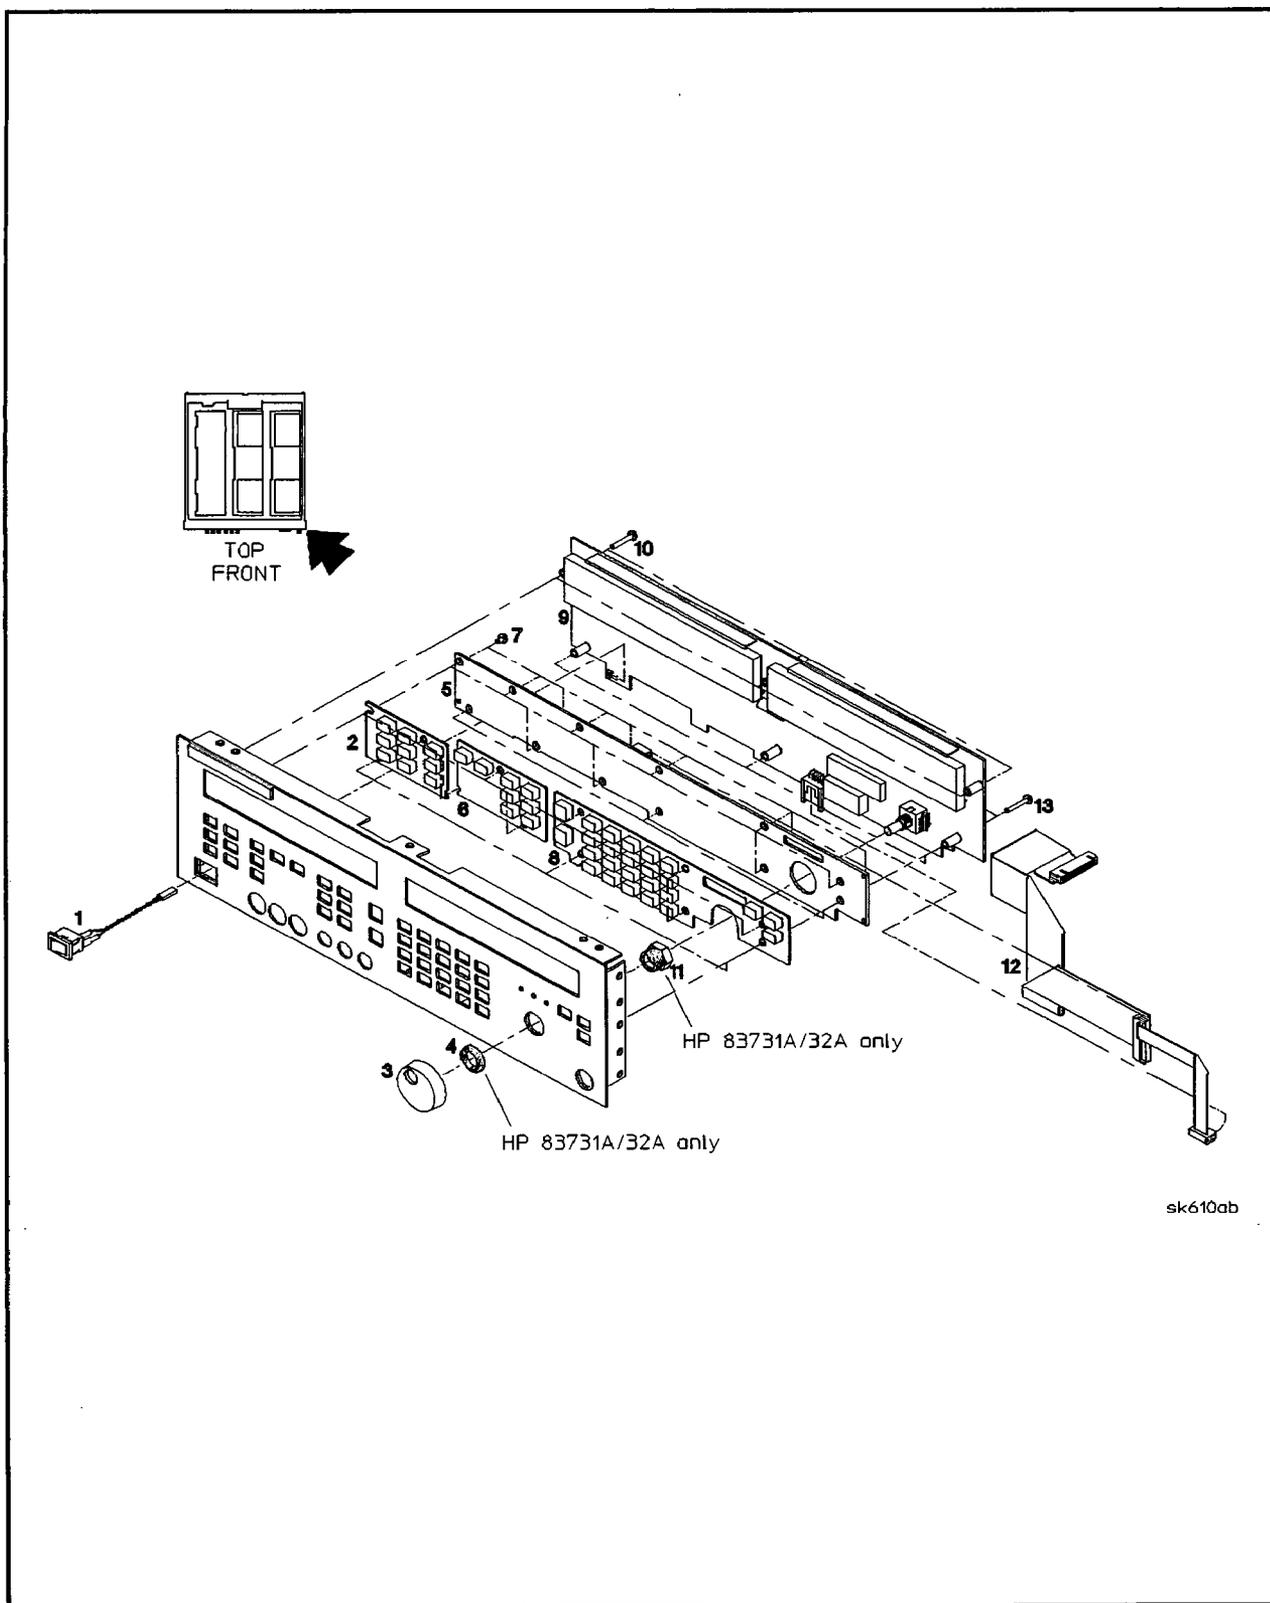

Figure 5-39. Front Panel and BNC Connector Removal
3. Using a knurled nut driver, remove the nut from the RF output connector. See Figure 5-39.
5. Using a size 10 TORX® screwdriver, remove the ten screws connecting the front panel to the front frame. See Figure 5-39.
1. Using a 9/16-inch nutdriver, remove the nut securing the BNC connector to the front panel. See Figure 5-39.
1. In the introduction to this chapter, refer to "Flexible Coaxial Cables" and then disconnect the following cables from the front panel: (See Figure 5-39.)